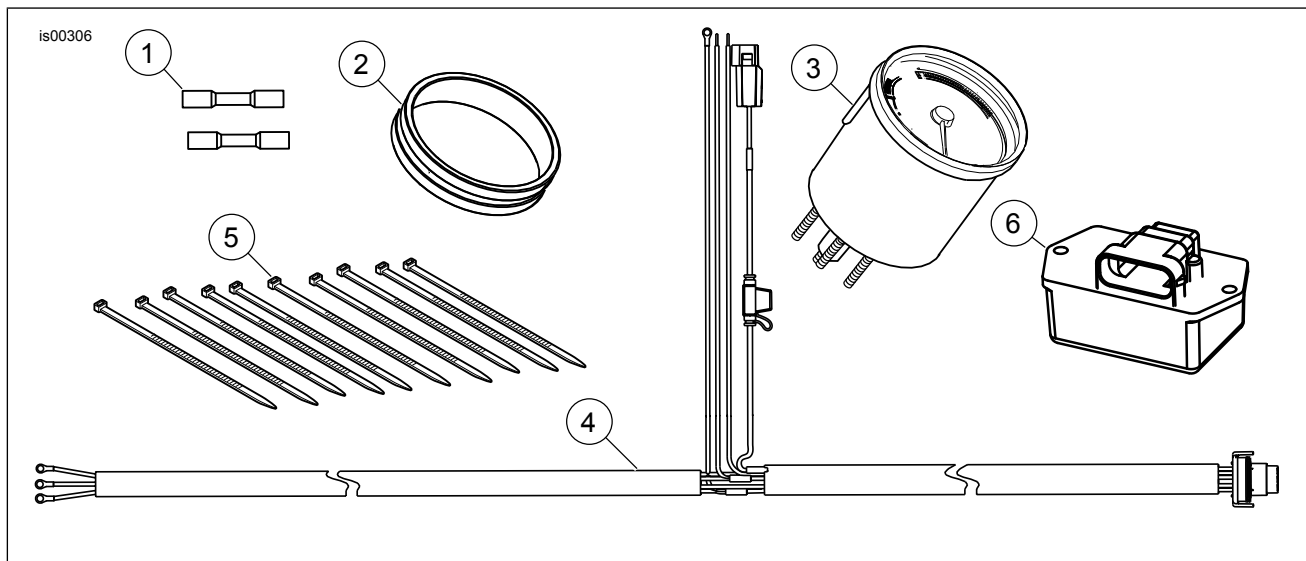

Figure 5. Service Parts for XL Custom Mini-Tach Kit
2. See Figure 5. Obtain from mini-tach gauge kit, the rubber isolation gasket (2) and the mini-tach (3).
6. See Figure 5. At several locations along the main harness, bundle the mini-tach harness to the main harness with cable straps (5) to support wires so they do not chafe or contact hot or moving points.